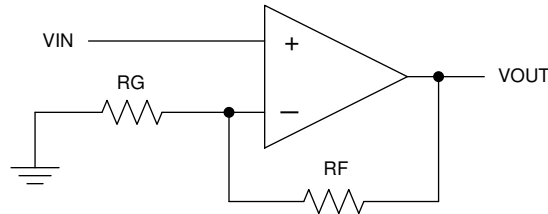

Figure 9-6. Schematic Representation
- Place the external components as close to the device as possible. As shown in Figure 9-6, keep RF and RG close to the inverting input to minimize parasitic capacitance.